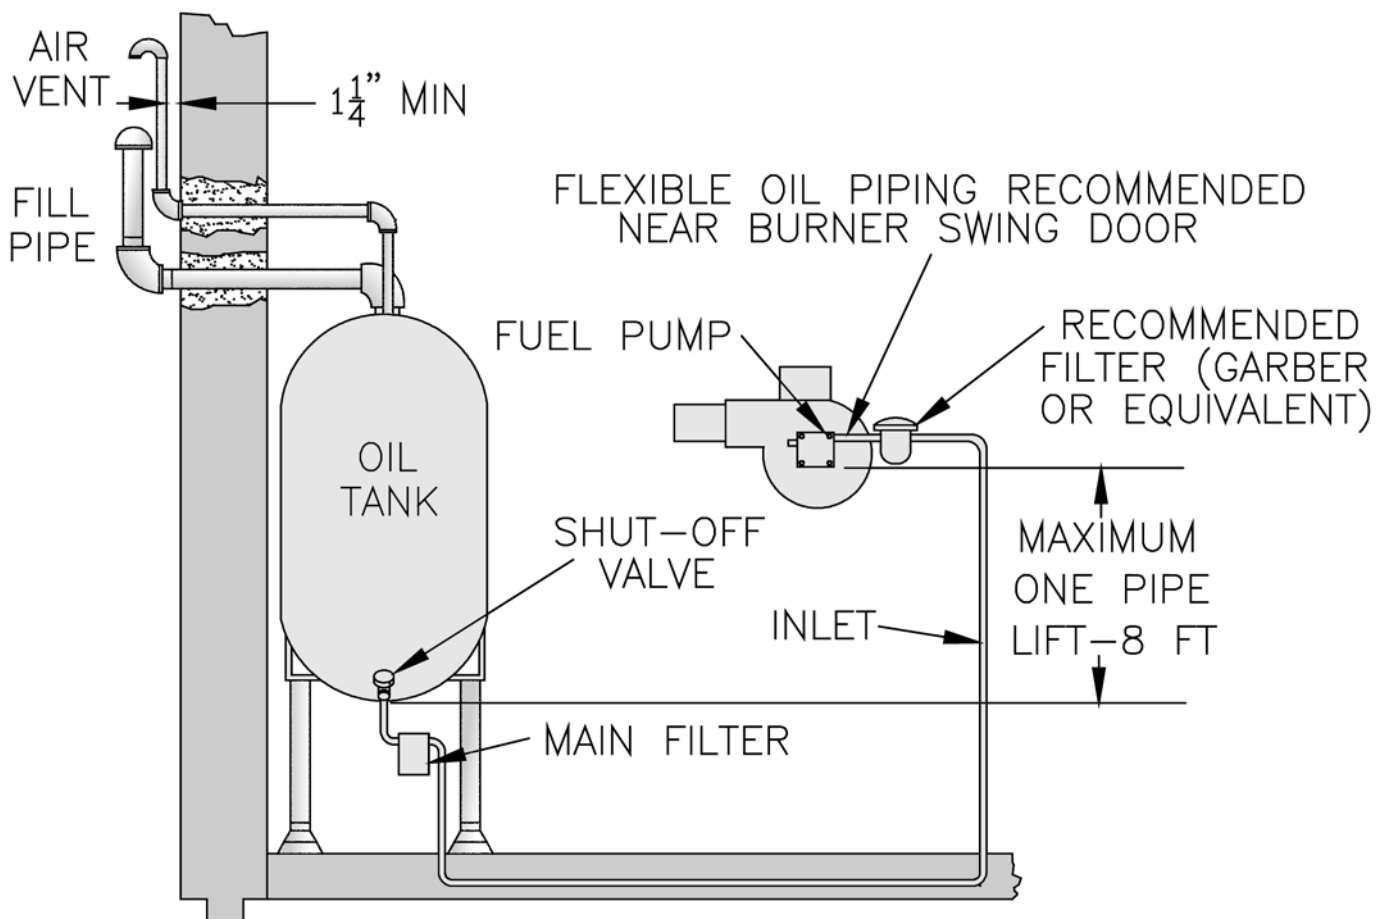

Figure 24: Single Pipe Oil Line
2. The single-stage fuel unit may be installed single-pipe with gravity feed or lift. Maximum allowable lift is 8 feet. See Figure 24.